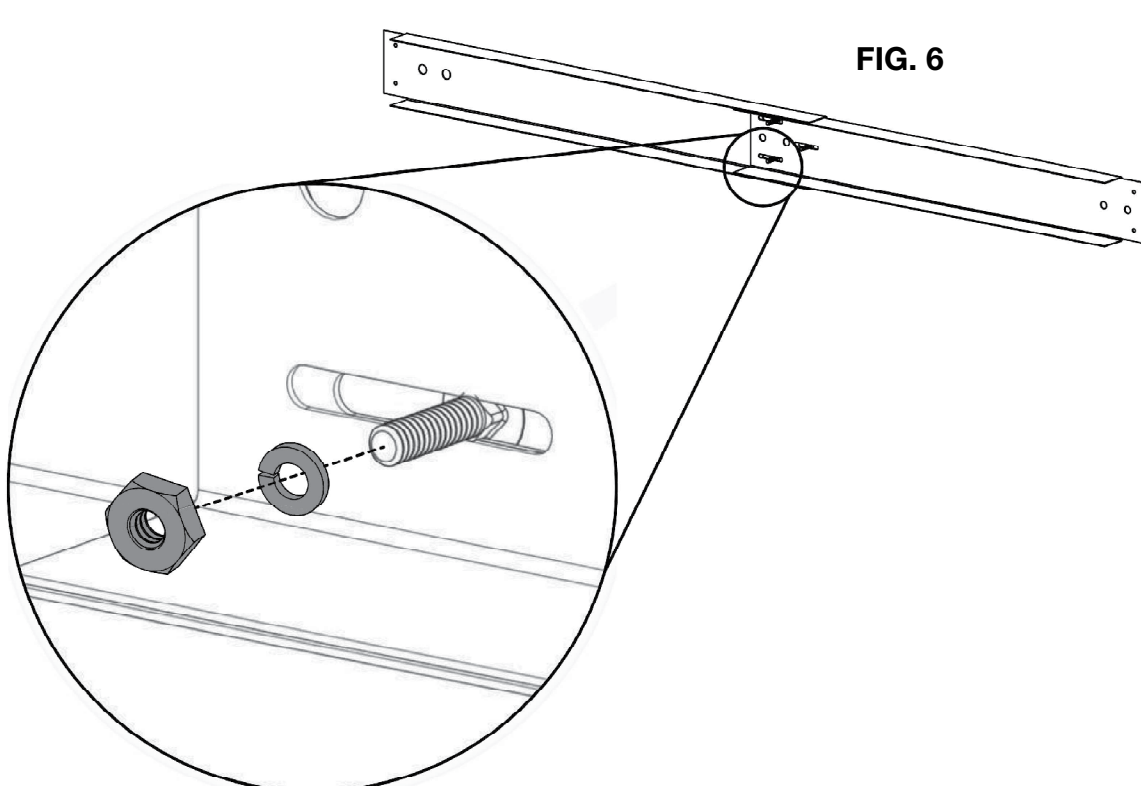

FIG. 6
3. Secure the 3 nuts (Type 1) and the 3 washers (Type 3) to the back of the bolts (FIG. 6).